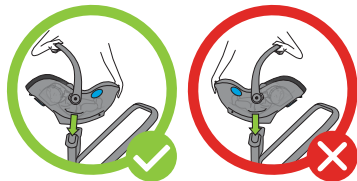

Figure 74
- With the child properly secured in the Carrier, position the Carrier so that the Stroller Attachment Points on the Carrier are positioned directly above the stroller car seat adapters, and lower Carrier onto the adapters, as shown in **Figure 74**.